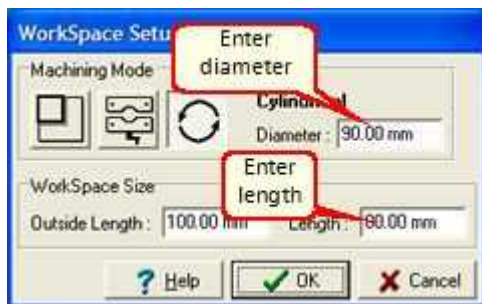
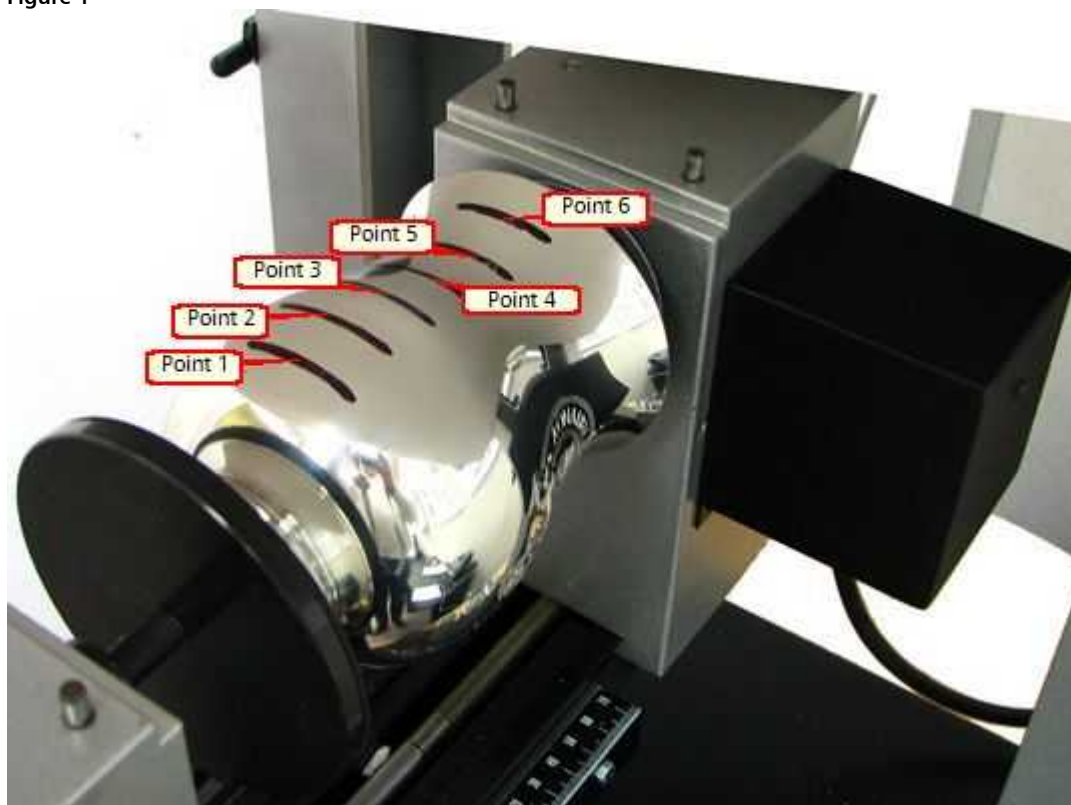

Figure 1
Figure 2
- 2 You now need to measure the largest diameter of your engraving area, i.e. it would be the fifth point in Figure 1 and also the length, this will be between point 1 and 6 in Figure 2.
- 3 In your U-MARQ Engraving Software select "Cylindrical Mode" and enter your diameter and length you have measured in the appropriate boxes, Click On "OK", see Figure 1.
- 5 Then jog your machine to the first point, surface, see Figure 2 using the "X" "Y" and "Z" keys on the keyboard, when satisfied Click On "Yes" to continue.
- 6 You will now get a Dialogue Box similar to Figure 3, Please select next point on object, select the second point, surface see Figure 2 using the "X" "Y" and "Z" keys on the keyboard, when satisfied Click On "Yes" to continue.